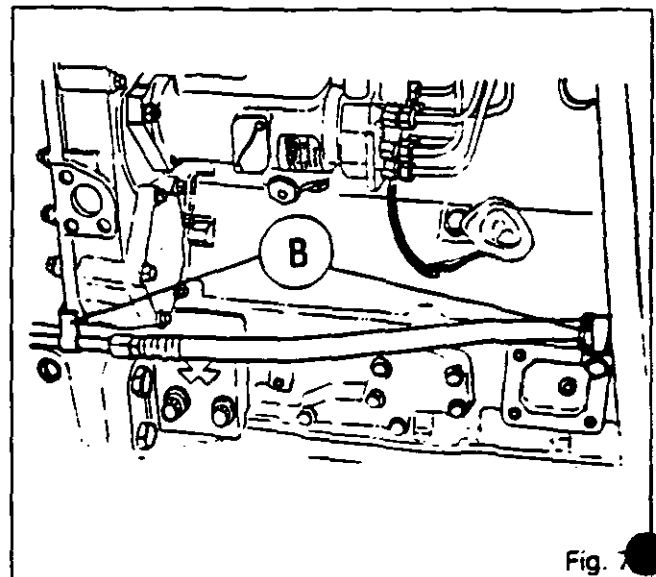

Fig. 7
22. Fit the connecting pipes and hoses onto the gearbox cover and secure them with attaching lugs B (Fig. 7) on the engine side.